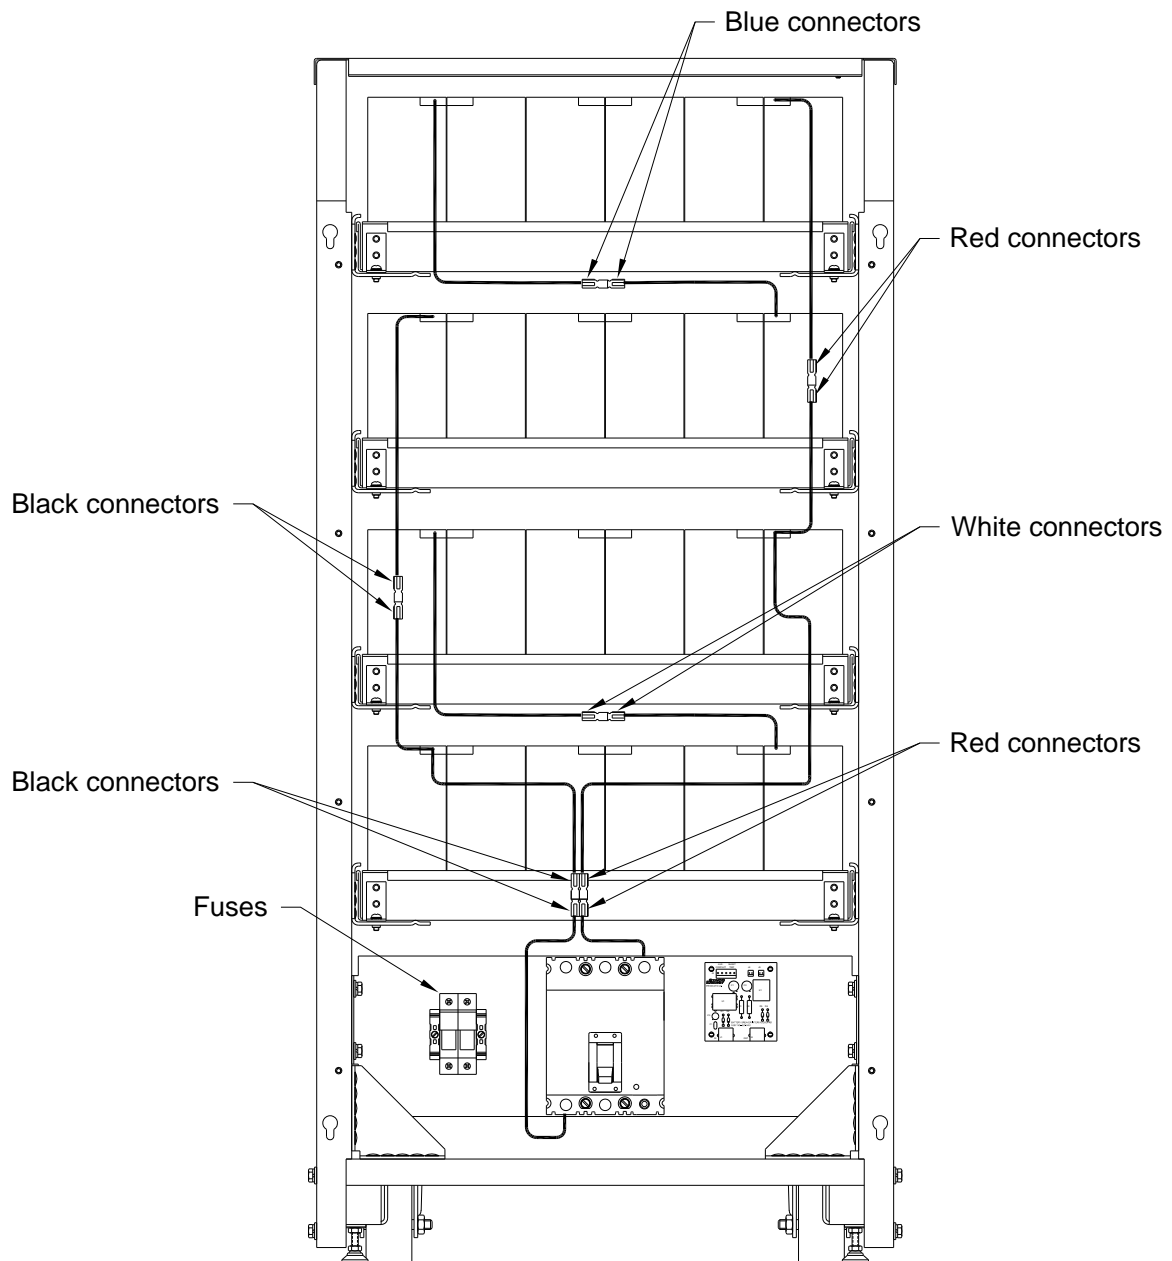

Figure 6 - Batteries
1. Inspect battery trays for signs of damage. Verify that all terminal connections are sound. See figure 6.
Before any battery service is attempted, the batteries must be disconnected by unplugging the cables to the battery trays. Before removing the cables, the connections should be marked in a way that no confusion will exist when it is time to reconnect the cables (see Figures 6 and 10). The batteries are mounted in slide out trays that permit access to the battery to battery connections when the trays are withdrawn from the cabinet.